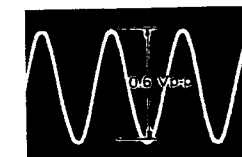

Fig. 2-6
- (1) Connect an oscilloscope to pin ⑤ of CN1 on SG BOARD.
- (2) Provide an SC signal (2 Vp-p) from EXT. MASTER SSG to SC input.
- (3) Adjust R29 (EXT. SC LEVEL) so that the SC amplitude is 0.6 Vp-p \pm 0.1 V as shown in Fig. 2-6.